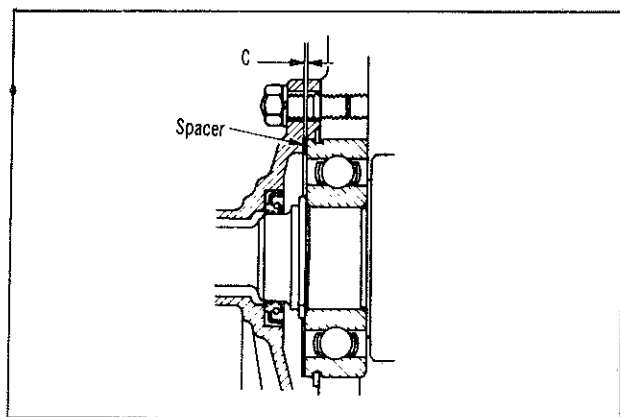

Fig. 30—Input shaft bearing retainer clearance
- (15) Replace the input shaft bearing retainer seal and apply grease to the seal lip.
- (16) Install the input shaft bearing retainer selecting a suitable thickness spacer to maintain the clearance 'C' (Fig. 30) within specification.
- (17) Install the mainshaft rear bearing retainer.
- (18) Install the reverse idler gear shaft assembly using the shaft retaining bolts as guides.